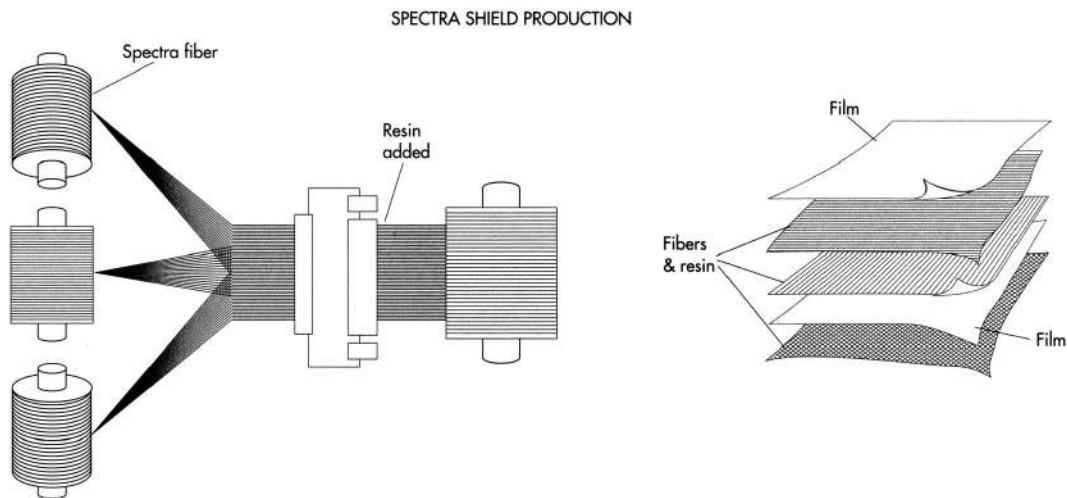

Figure 2. Spectra fibers are coated with resin to form sheets, which are then layered and bonded between sheets of polyethylene film.
2. Unlike Kevlar, Spectra and other UHMWPE materials used in bulletproof vests are usually not woven. Instead, the strong UHMWPE polymer filaments are spun into fibers that are then laid parallel to each other (see figure 2). Resin is used to coat the fibers, sealing them together to form a sheet of Spectra cloth. Two sheets of this cloth are then placed at right angles to each other and again bonded, forming a nonwoven fabric that is sandwiched between two sheets of